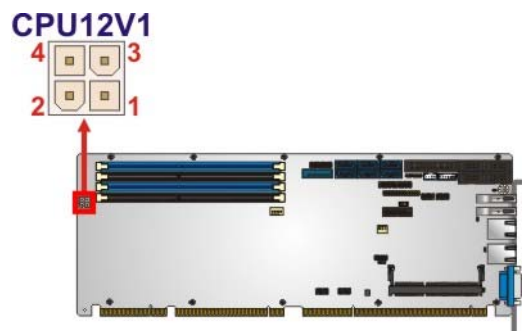

Figure 3-2: ATX Power Connector Pinout Location
- CN Location:** See **Figure 3-2**